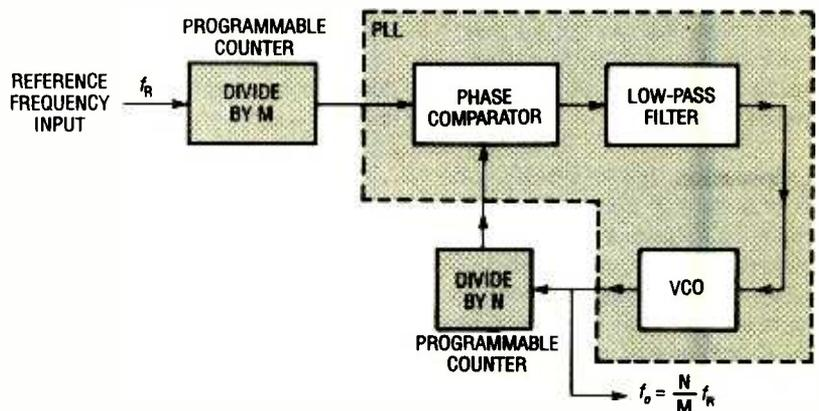

Fig. 3. The PLL can be used to generate new frequencies from a stable reference source by either frequency multiplication and division, or transition.
**Frequency Synthesis.** The PLL can be used to generate new frequencies from a stable reference source by either frequency multiplication and division, or transition. Figure 3 shows a typical frequency multiplication and division circuit using a PLL and two programmable counters. In that application, one of the counters is inserted between the VCO and the phase comparator, effectively dividing the VCO frequency by the counter's modulus (N). When the system is in lock, the VCO output is related to the reference frequency ( $f_R$ ) by the counter modulus M and N as: